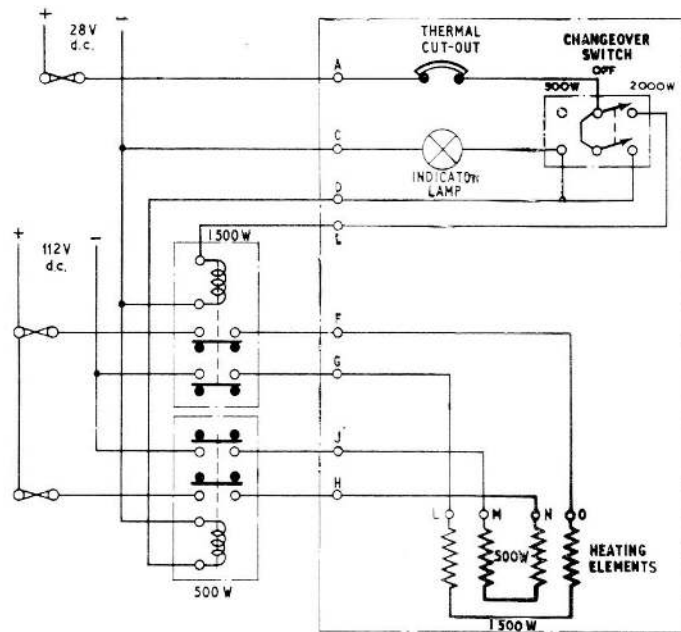

Fig. 4. Urn, G.E.C. Type H.E. 46483 M7 circuit diagram
5. The heating elements are controlled by two relays. These relays are housed within the electrical control panel on the Type H.E. 54257, but on the other models they are part of the aircraft system. On all types the relays are controlled by the urn switch. Circuit diagrams are given in fig. 4 and 5.